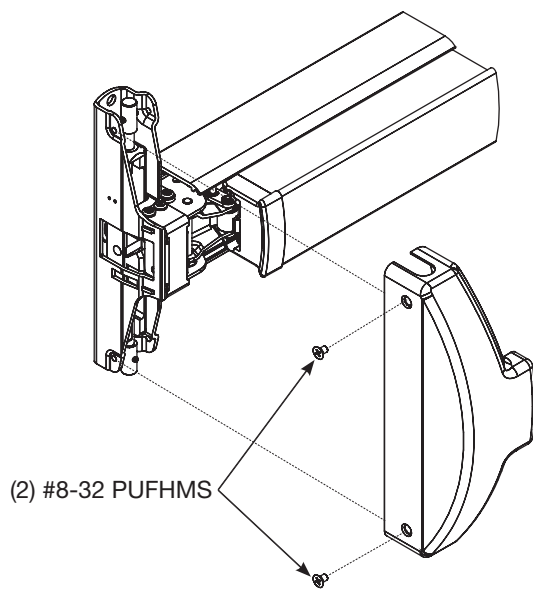

Figure 16: Device Assembly Cover Installation
1. Secure device assembly cover with two (2) #8-32 x 5/16" (7.94mm) PFHUMS. Fully tighten screws (Figure 16).